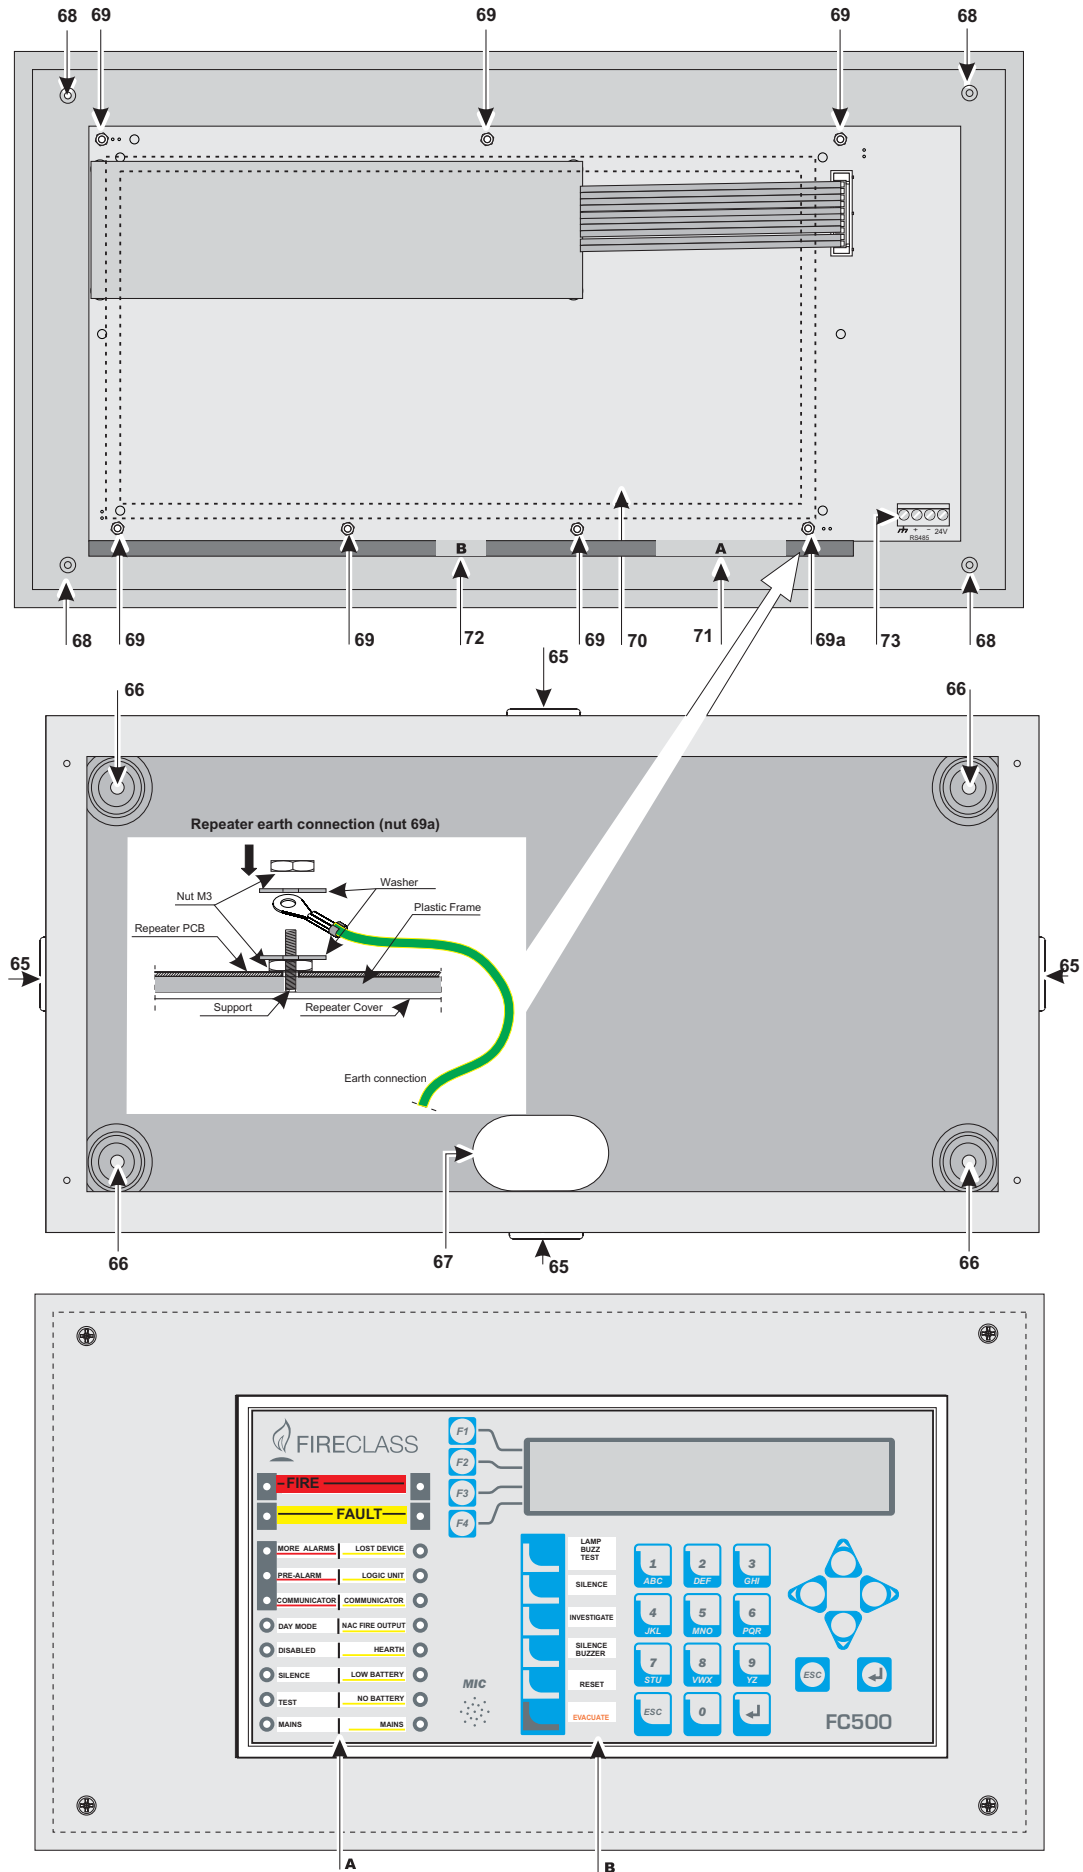

Figure 5 Installation FC500REP Repeater.
2. Remove the screws (**68**) (see Figure 5) and open the Repeater FC500REP.
- Connect the earth wire to the threaded support **69a** on the cover, as illustrated in Figure 5.